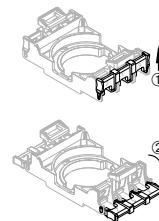

Fig. 3
2. Opening the contact fitting (see Fig. 3)